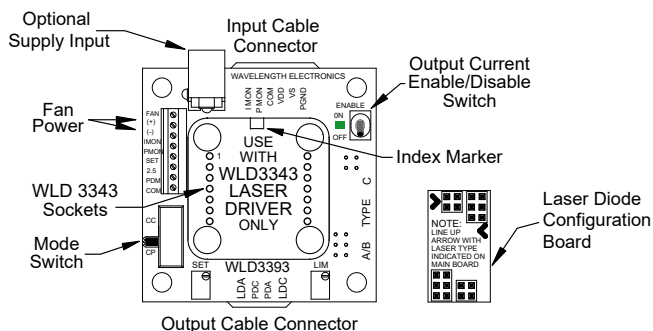

Figure 13. WLD3393 Top View
**Figure 13** gives a top view of the WLD3393 Evaluation Board.
**B)** Configure the evaluation board for Constant Current (CC) operation using the Mode Switch.
**C)** Turn the SET trimpot at least twelve turns counter-clockwise (OFF). Adjust the LIM trimpot at least twelve turns clockwise (ON).
**D)** Apply power to the WLD3393 and enable the output current by switching the enable switch to the "ON" position. See **Figure 13** to locate the switch.
**E)** Adjust the SET trimpot clockwise until the voltmeter displays  $V_{LIMIT}$  calculated in **Equation (14)**. Next, turn the LIM trimpot counter-clockwise until the displayed voltage just begins to decrease. Finally, turn the SET trimpot fully counter-clockwise to zero the output current.